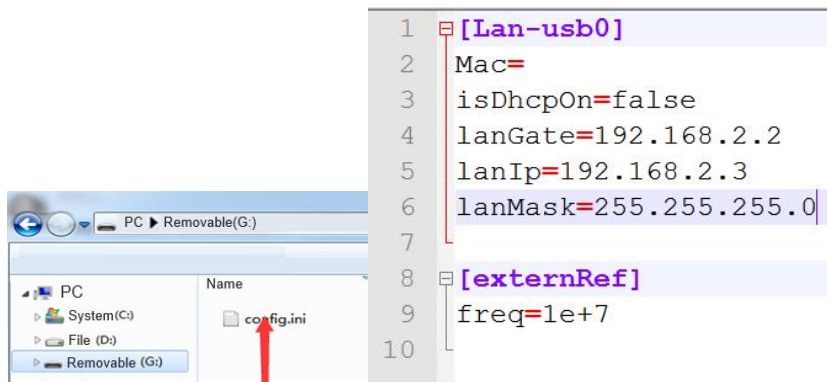

Figure 4-4 Change IP address
- 4) To change the IP address of the spectrum analyzer, you can open the config.ini file located in the removable disk, modify the IP address and gateway address, and save the changes. After restarting the spectrum analysis module, the new settings will take effect, as shown in Figure 4-4. (Note: If the IP address subnet is changed, the USB0 network adapter's IP address